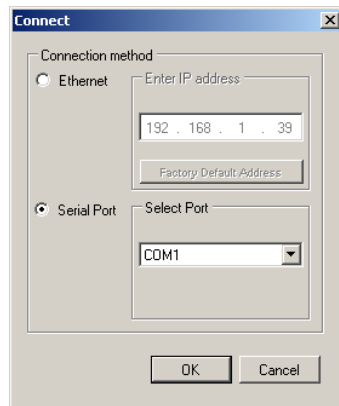

Figure 10: The Connection Method – via the Serial Port
- Serial Port (Figure 10), and enter the select the PC serial port to which the RC machine is connected